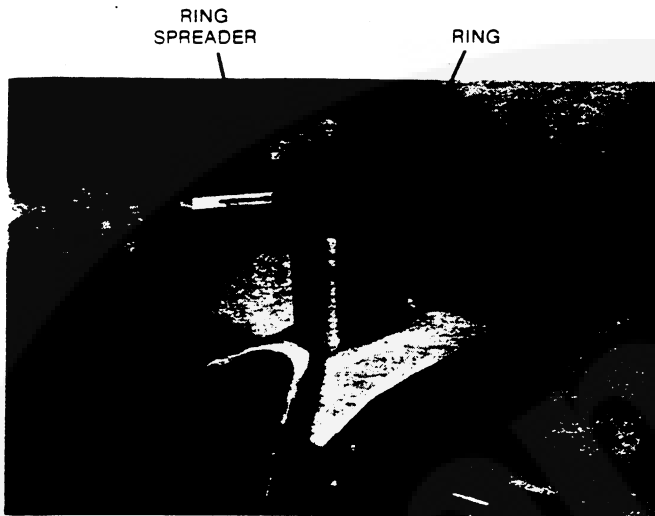

FIGURE 26. REMOVING PISTON RINGS
6. Remove piston rings with a piston ring spreader as shown in Figure 26.